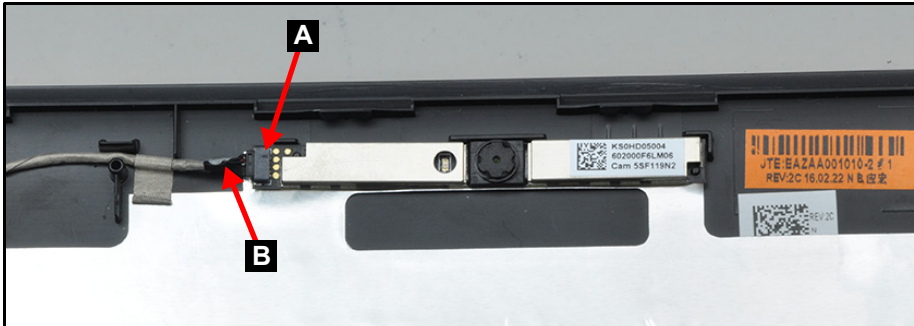

Figure 3-65. Camera Connector Location
1. Disconnect the camera cable (B) from the connector (A) (Figure 3-65).